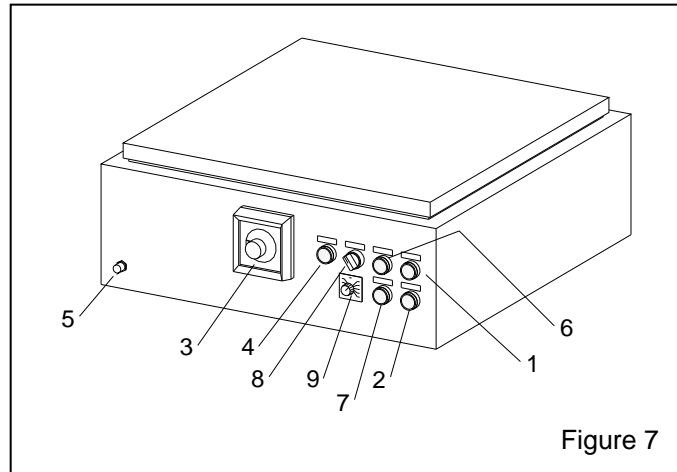

Figure 7
4.1.2 Variable speed controls, Figure 7